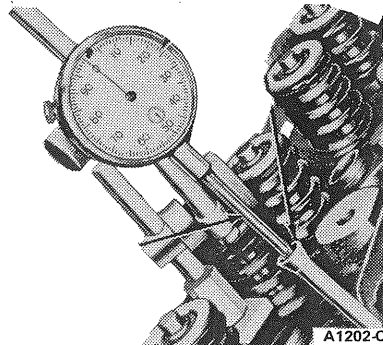

FIG. 6 Typical Camshaft Lobe Lift Hydraulic Valve Lifters — V-8 Engine
2. Remove the valve rocker arm assembly(ies) and install a solid, tappet-type push rod in the push rod bore of the camshaft lobe to be checked or use the adapter for ball end push rods shown in Figure 6.